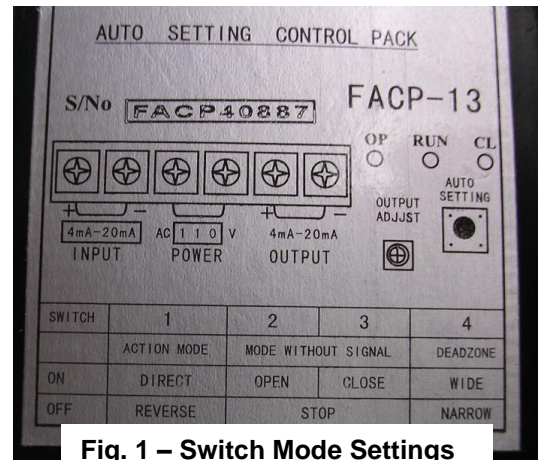

Fig. 1 – Switch Mode Settings
MODE SWITCHES - Dip Switches 1-3 are used to set the action. The unit is set at the factory for direct acting where the unit drives in a CCW rotation upon receiving a low signal, i.e. 4mA = CCW. The rotation is viewed from the top of the unit. The position of the DIP switches also determine what the unit does if the input signal is lost. See the Fig 1 to determine the proper positions.
2. See Fig 1 to determine how to select loss of signal.